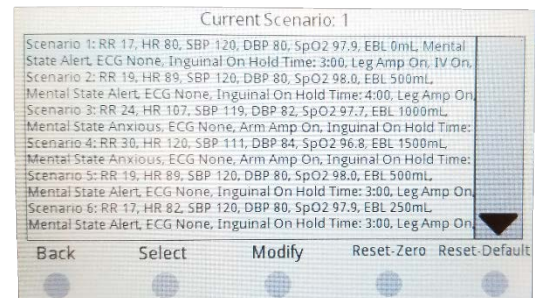

Figure 15
There are currently twenty (20) built-in training scenarios, which can be accessed by pressing the **Scenarios** button on *Session Control Screen*. These scenarios are numbered, along with a list of physiology settings including respiration rate, heart rate, blood pressure, blood loss, ECG setting, wounds turned on or off, IV turned on or off, and state of the eyes (state of the eyes is for the CRU only). These provide a starting point for a session (Figure 15). The scenarios can be run as they are or can be modified by the user either before or during a session. Changes to the scenario are automatically saved, so that scenario is then customized. Any changes can be undone at any time by pressing the Reset-Default button on the Scenario screen. All parameters can be set to zero by pressing the Reset-Zero button.